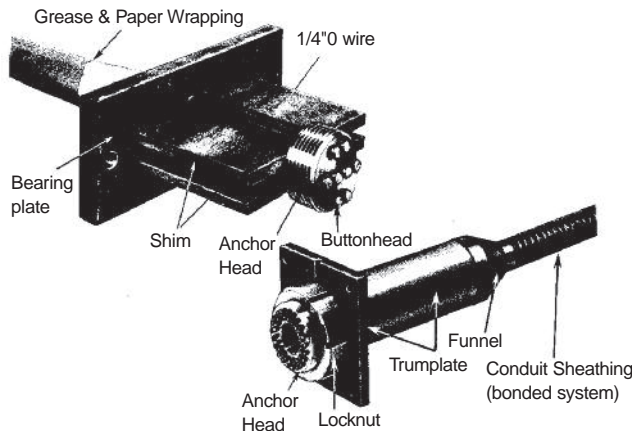

Figure 1.16: Wire Tendon Systems
3) **Wire Systems** (Figure 1.16)